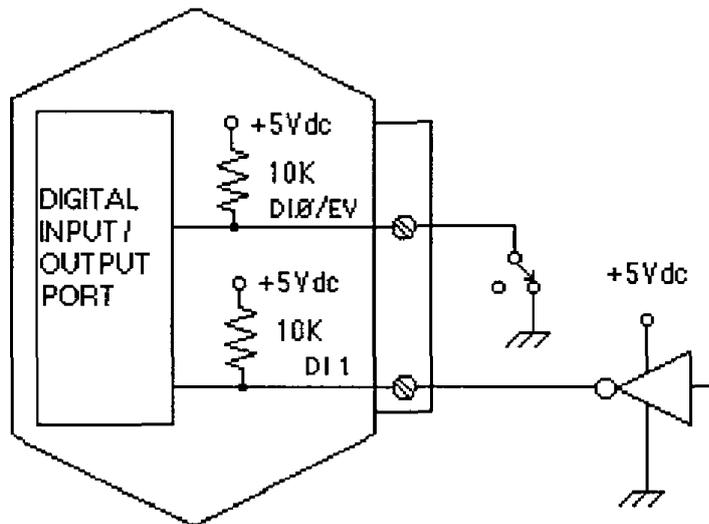

Figure 6.1 Digital Inputs
The inputs are protected to voltages up to $\pm 30V$ and are normally pulled up to the logic "1" condition (see Figure 6.1). Digital inputs can be read with the Digital Input (DI) command. Voltage inputs less than 1V are read back as '0'. Signals greater than 3.5V are read as '1'.